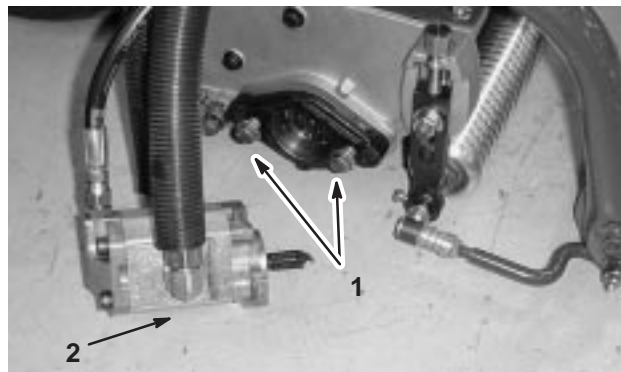

Figure 12
- Assemble the mounting capscrews for the reel drive motor to each cutting unit. Leave approximately 1/2 in. (13 mm) of threads exposed on each mounting capscrew (Fig. 12).
- Coat the spline shaft of the motor with clean grease and install the motor by rotating the motor clockwise so that the motor flanges clear the studs. Rotate the motor counterclockwise until the flanges are encircling the studs. Tighten the mounting capscrews (Fig. 12).